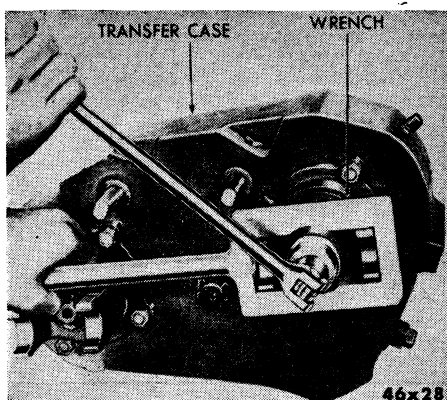

Fig. 6 Removing transfer case companion yoke nut
2. Apply hand brake and remove companion yoke nut, Fig. 6.